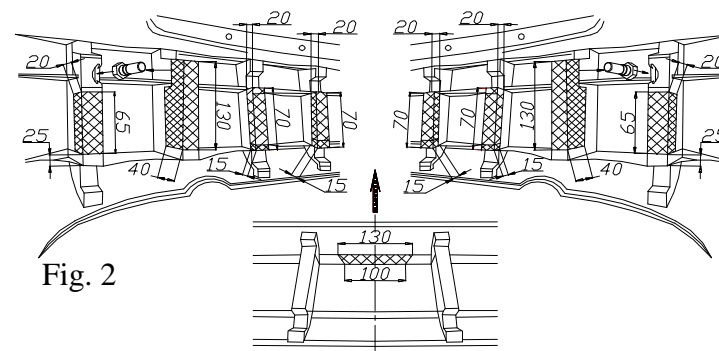

Fig. 2
2. Cut out inside fragments of the bumper according to figure 2.
3. Put main bar of the towbar (pos. 1) into chassis members and fix by bolts M10x35mm (pos. 5), use big washers (pos. 8).
5. Fix body of the automat (pos. 15) and the socket plate (pos. 3) using bolts M12x25mm (pos. 4) from accessories. Place tow-ball (pos. 2) according to supplied instruction.